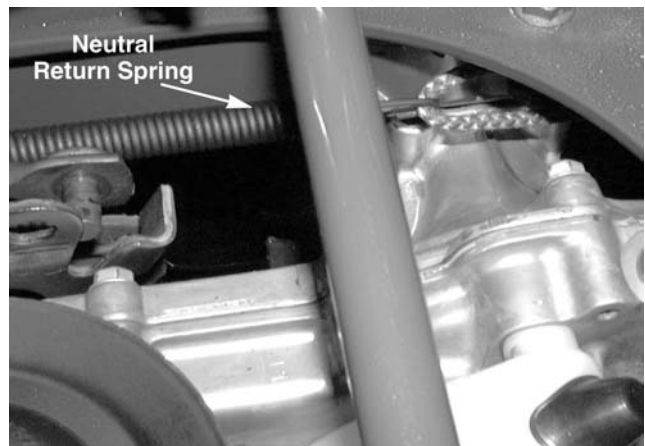

Figure 9-55
16. Remove the self tapping screw securing the ground wire to the neutral return link. See Figure 9-55.
An assistant may be necessary during reinstallation to guide the extension spring back onto the frame bolt. See Figures 9-55 and 9-56.